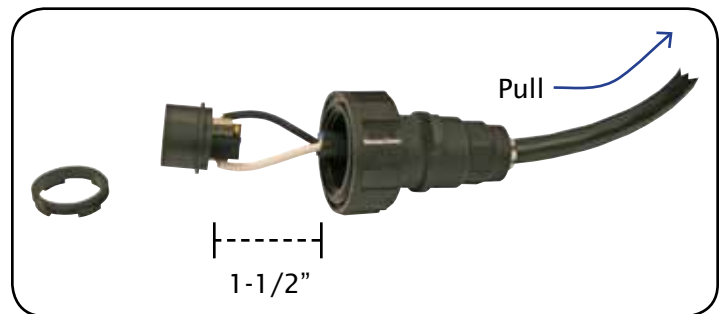

figure 4
7. Place wire into contact insert and tighten. Wires can be installed in either direction. (Fig. 4)
8. Pull cable until contact insert can be aligned in the housing then secure with the insert retaining ring. (Fig. 4)